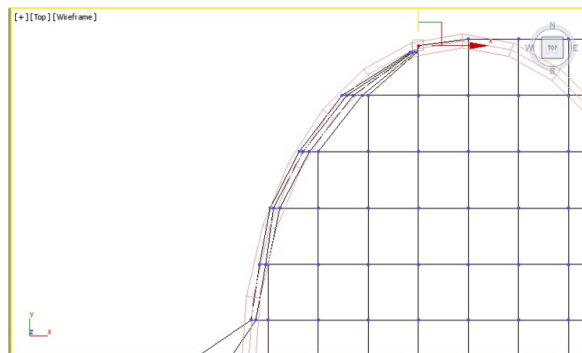

Figure 12-76 The vertices arranged to form the shape of the head
11. Choose the **Select and Move** tool to select the vertices one by one and arrange them to form the shape of *head*, as shown in Figure 12-76.